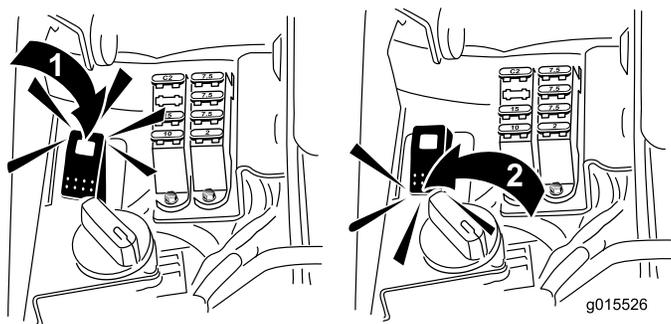

Figure 59
5. Rotate the Backlap Switch to the reverse (R) position (Figure 59).